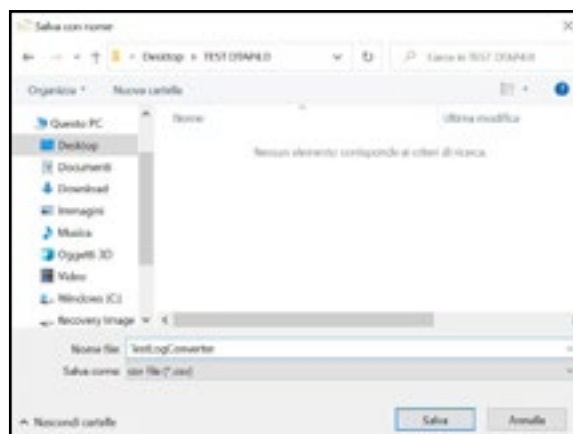

FIG. 12
- Select the save folder (Fig. 12) and type the name of the log file that has been converted (.csv)
- Press SAVE (fig. 12)